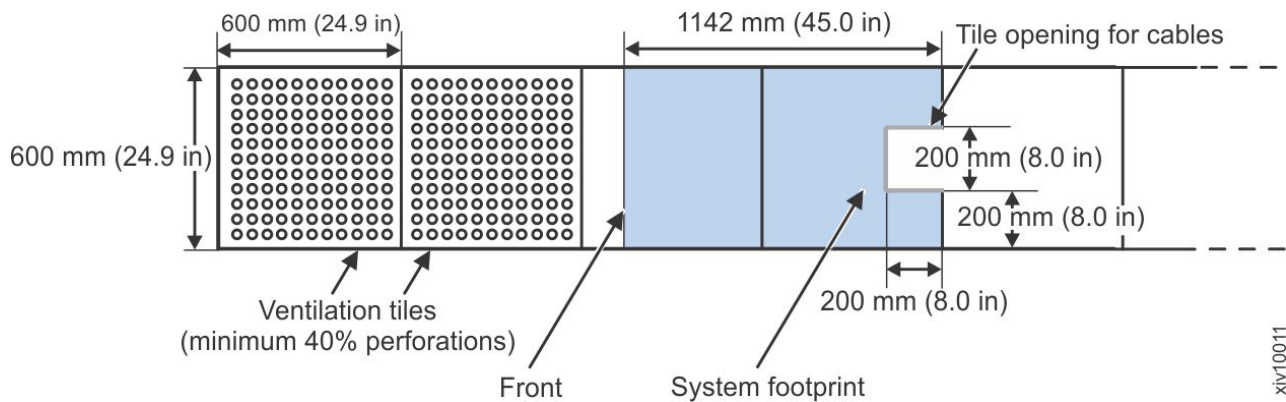

Figure 12. Raised floor requirements
perforated tiles immediately in front of the rack (see Figure 12).
3. Cut a 200 × 200 mm (8 × 8 in.) opening in the rear floor tile for under-floor cabling and electricity (see Figure 12).
4. To allow for ventilation for airflow and support system cooling requirements, have at least two tiles (and preferably more) in front of the FlashSystem A9000R system (see Figure 12). These tiles must have a minimum of 40% perforation.